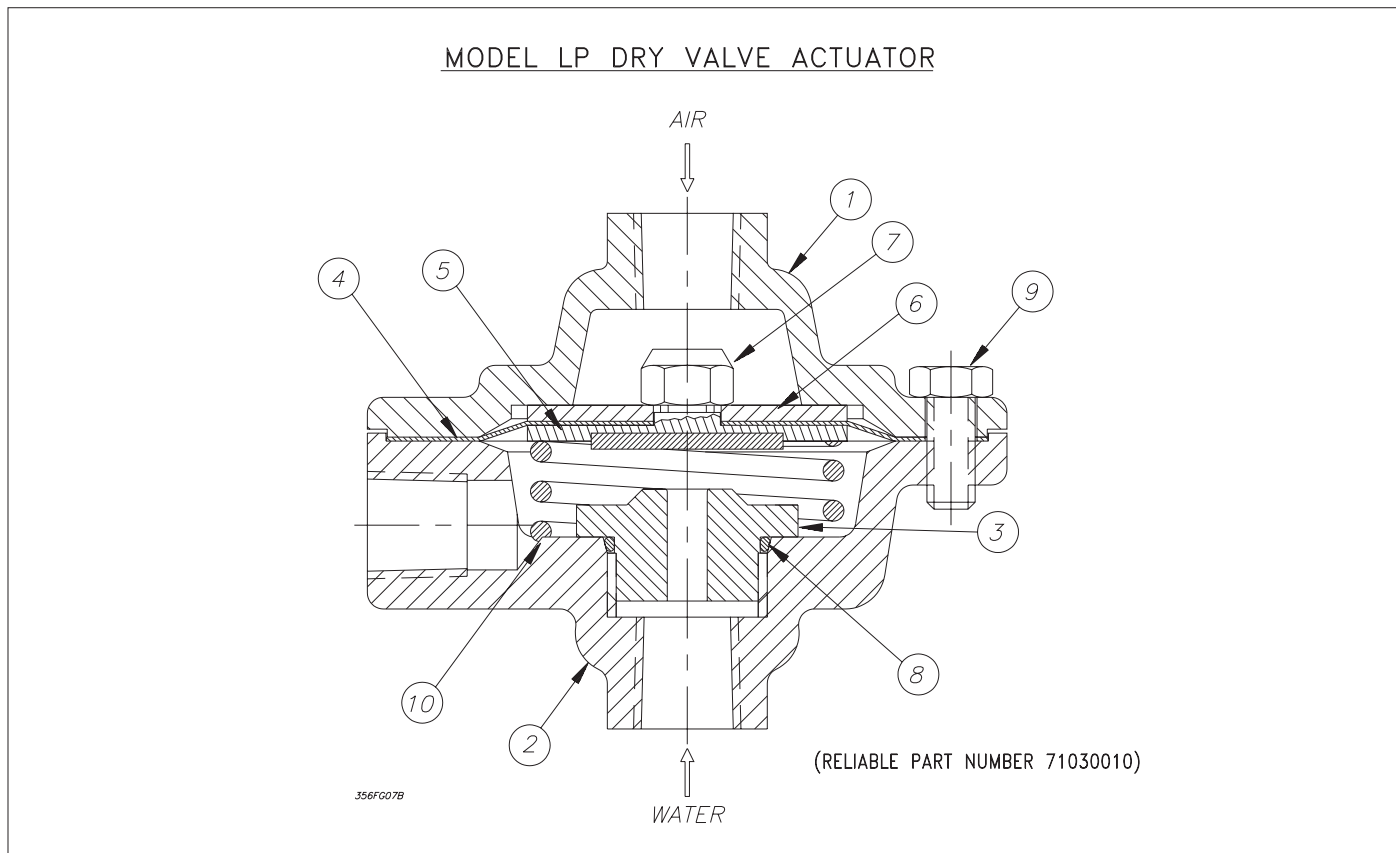

Fig. 8
Refer to Fig. 8
4. Remove all six bolts (#9, Fig. 8) holding the Actuator together. Clean or replace the facing plate assembly (#5, Fig. 8) and seat (#3, Fig. 8).
5. Reassemble the Actuator, using a torque of 8 ft-lbs on the facing plate nut (#7, Fig. 8) and 12 ft-lbs on the six bolts (#9, Fig. 8). Use a cross-tightening pattern. Reinstall the Actuator. Set up the Model DDX Deluge Valve as per the section of this bulletin entitled "Resetting the Single Interlock Preaction System."